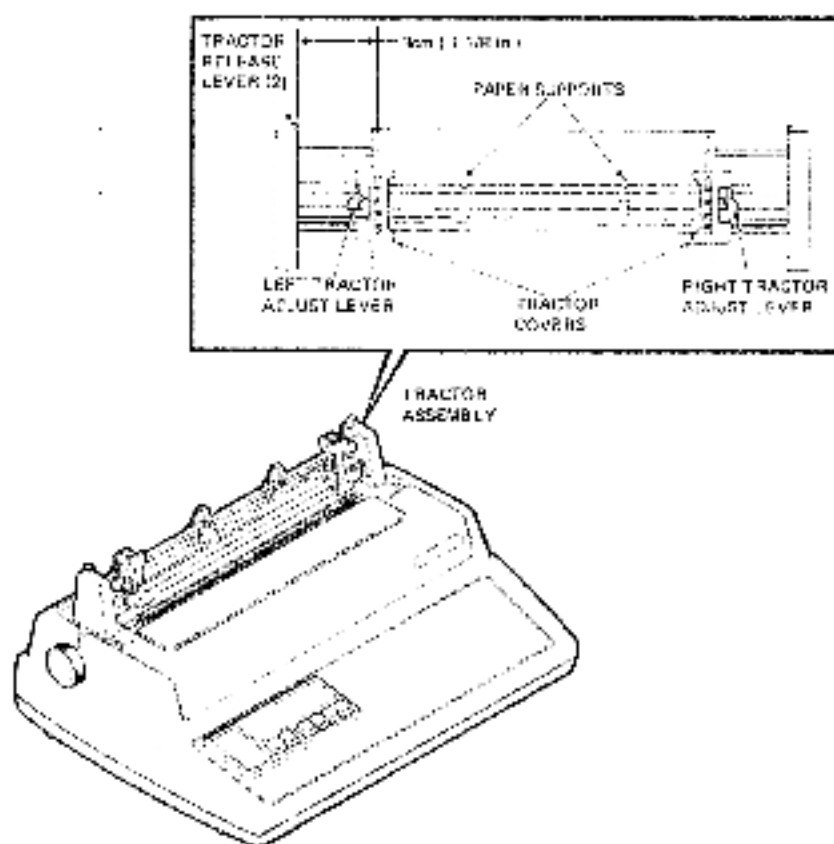

Figure 2-7 Loading Tractor Feed Paper
2. If you use a different size paper, pull the right tractor adjust levers toward the front of the printer to loosen the right tractor (Figure 2-7).
4. Open both tractor covers (Figure 2-7).
11. Position the paper supports one quarter of the distance from each tractor (Figure 2-7).